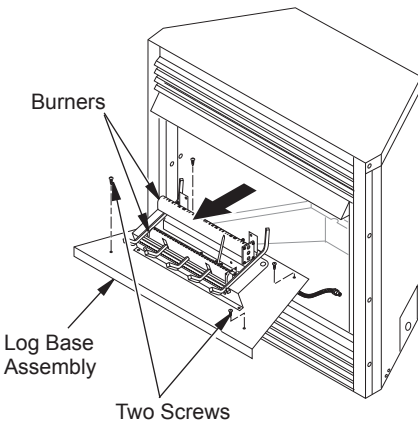

Figure 2 - Removing Log Base Assembly from Fireplace
- Remove logs. Remove two screws that attach log base assembly to fireplace. Carefully lift log base assembly and remove from fireplace (see Figure 2).
- Put log base assembly back into fireplace. Secure log base assembly with the two screws removed in step 2 (see Figure 2, page 2).